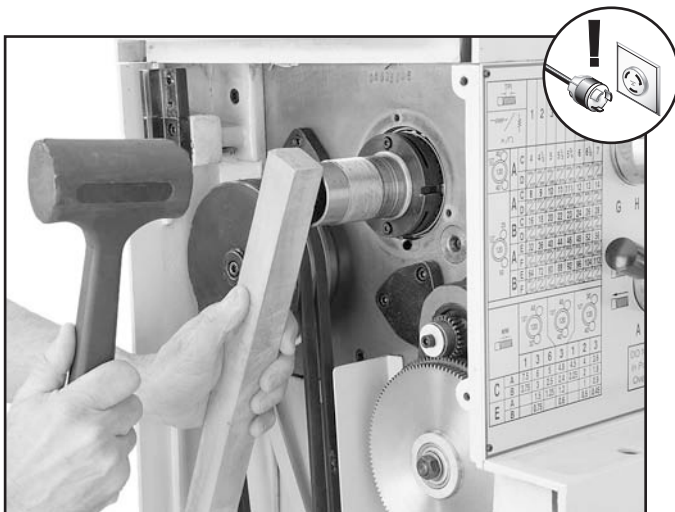

Figure 143. Example of introducing detectable spindle end play.
9. Place the wooden block over the outboard end of the spindle, and hit it soundly with the heavy dead blow hammer, as shown in the example of **Figure 143**.